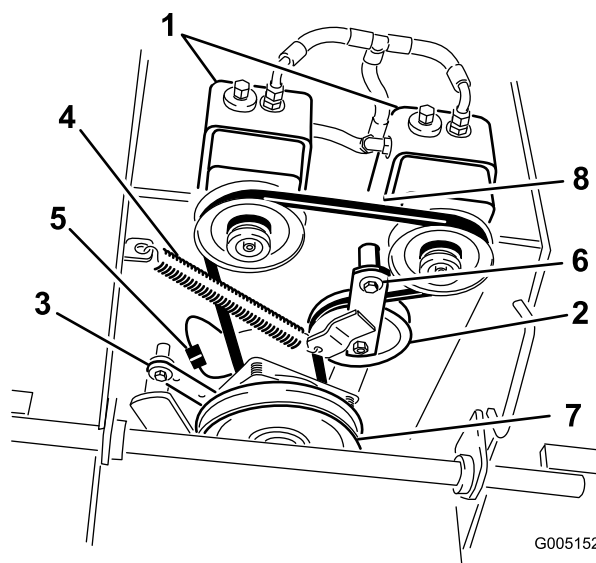

Figure 52
7. Unhook the idler spring from the frame (Figure 52).
9. Install the idler spring between the idler arm and the frame bracket (Figure 52).
10. Install the clutch retainer to the engine deck (Figure 52).
6. Disconnect the clutch retainer from the engine deck (Figure 52).